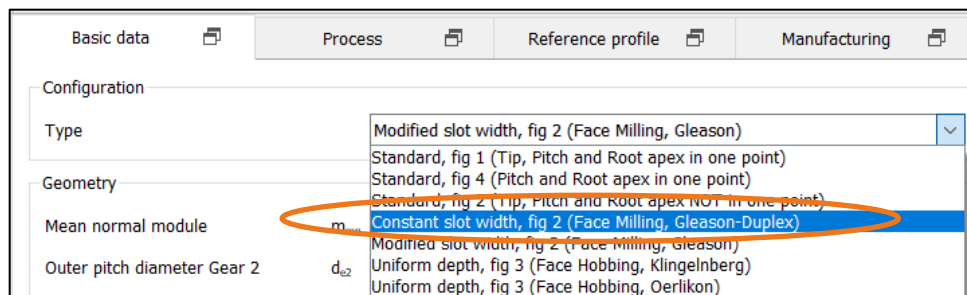

Figure 19. Selecting the «Constant slot width» type for duplex bevel gears
- In «**Basic data**»→ «**Type**» select the «**Constant slot width**» type (see Figure 19). The pinion has a constant space width because both flanks are created in the same manufacturing run.